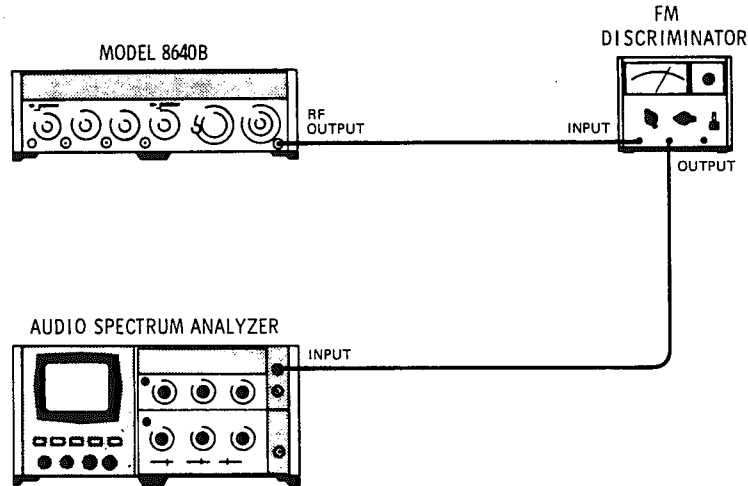

Figure 4-25. FM Distortion Test Setup
1. Connect equipment as shown in Figure 4-25 after setting Signal Generator's controls as follows: